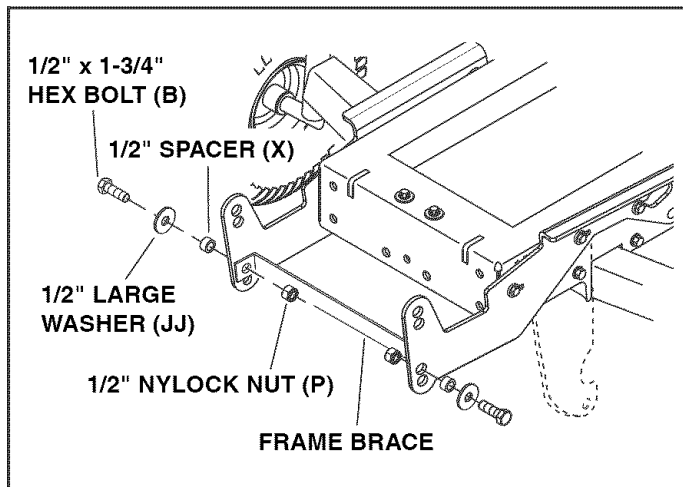

FIGURE 21
STEP 22: INSTALL FRAME BRACE (SEE FIGURE 21)
- Install the frame brace between the side plates using two 1/2" x 1-3/4" bolts (B), large 1/2" large washers (JJ), 1/2" spacers (X) and 1/2" nylock nuts (P). Fasten the brace to the second from bottom holes in the side plates. **Tighten.**
- **Tighten** 3/8" bolts (E) in side plates only until they are snug and the lock washers are flattened.